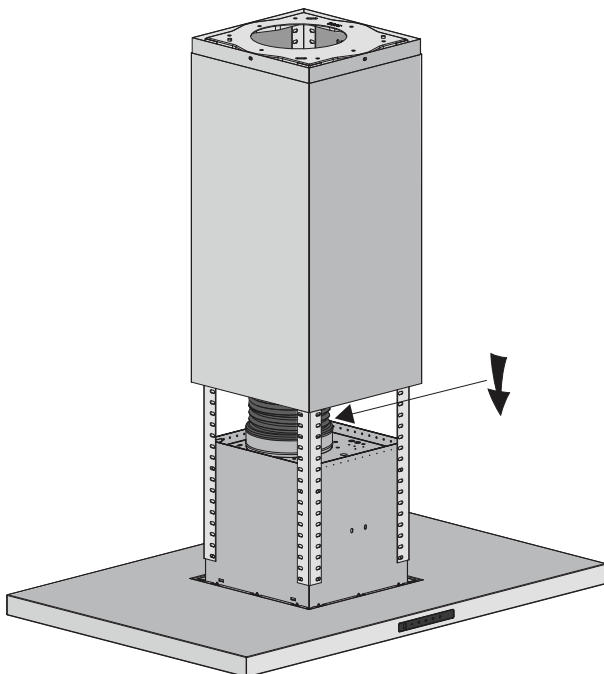

Figure 8
- Attach the ducting pipe on the outlet (see Figure 8).